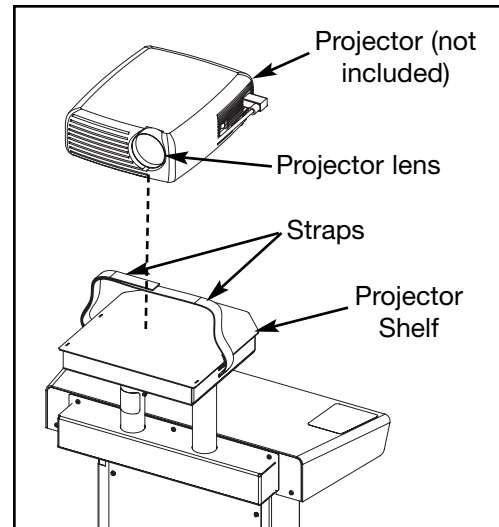

Figure 4
- B. Place projector on the projector shelf. **NOTE:** Place projector so lens faces the back of the unit. See Figure 4.
- C. Secure the projector to the shelf by tightly wrapping the straps around the projector. See Figure 4.